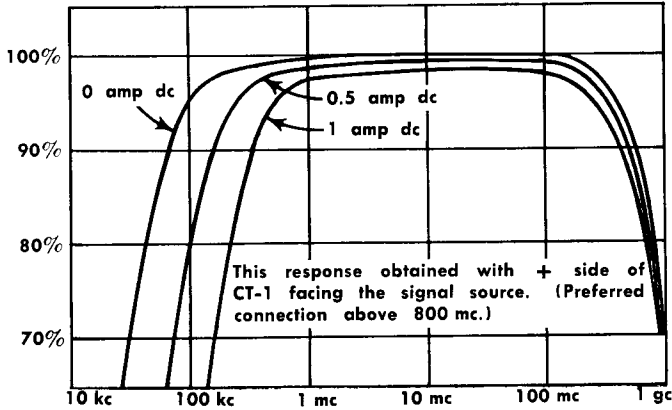

Fig. 2. Typical frequency response.
- Frequency Response See Fig. 2.
Effect of Direct Current 0.6 amp dc changes pulse response to $\pm 3\% - (2t/50)\%$. (See Fig. 2 and Fig. 4).